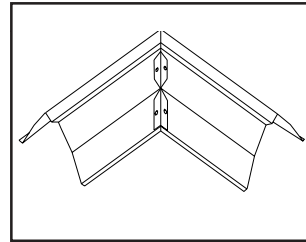

Fig. 2-14
**Reflector Elbows** (Part No. RE) are designed to fit atop an elbow tube fitting (see fig. 2-14).